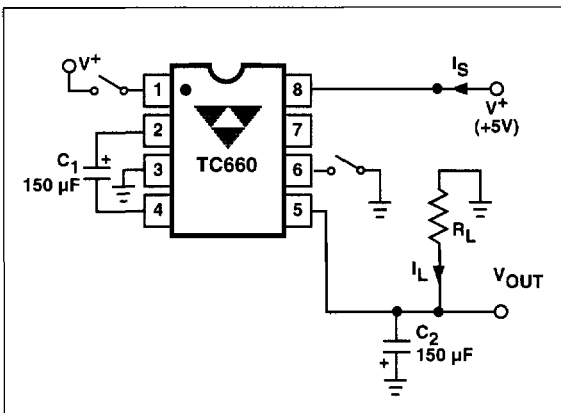
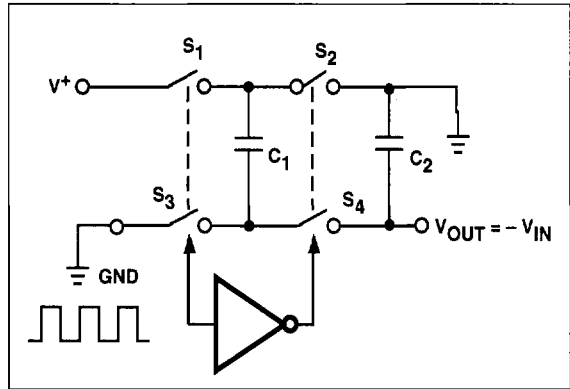

Figure 1. TC660 Test Circuit (Inverter)
Figure 2. Idealized Switched Capacitor
**ELECTRICAL CHARACTERISTICS:** Specifications Measured Over Operating Temperature Range With,  $V^+ = 5V$ ,  $C_{OSC} = \text{Open}$ ,  $C_1, C_2 = 150\mu F$ ,  $FC = \text{Open}$ , Test Circuit (Figure 1), unless otherwise indicated.
All curves are generated using the test circuit of Figure 1 with  $V^+ = 5V$ , LV = GND, FC = open, and  $T_A = +25^\circ C$ , unless otherwise noted.
The TC660 contains all the necessary circuitry to complete a voltage inverter (Figure 1), with the exception of two external capacitors, which may be inexpensive 150 $\mu$ F polarized electrolytic capacitors. Operation is best understood by considering Figure 2, which shows an idealized voltage inverter. Capacitor  $C_1$  is charged to a voltage  $V^+$  for the half cycle when switches  $S_1$  and  $S_3$  are closed. (Note: Switches  $S_2$  and  $S_4$  are open during this half cycle.) During the second half cycle of operation, switches  $S_2$  and  $S_4$  are closed, with  $S_1$  and  $S_3$  open, thereby shifting capacitor  $C_1$  negatively by  $V^+$  volts. Charge is then transferred from  $C_1$  to  $C_2$ , such that the voltage on  $C_2$  is exactly  $V^+$ , assuming ideal switches and no load on  $C_2$ .
The four switches in Figure 2 are MOS power switches;  $S_1$  is a P-channel device, and  $S_2$ ,  $S_3$  and  $S_4$  are N-channel devices. The main difficulty with this approach is that in integrating the switches, the substrates of  $S_3$  and  $S_4$  must always remain reverse-biased with respect to their sources, but not so much as to degrade their ON resistances. In addition, at circuit start-up, and under output short circuit conditions ( $V_{OUT} = V^+$ ), the output voltage must be sensed and the substrate bias adjusted accordingly. Failure to accomplish this would result in high power losses and possible device latch-up. This problem is eliminated in the TC660 by a logic network which senses the output voltage ( $V_{OUT}$ ) together with the level translators, and switches the substrates of  $S_3$  and  $S_4$  to the correct level to maintain necessary reverse bias.
$V_1$  and  $V_2$  are the voltages on  $C_1$  during the pump and transfer cycles. If the impedances of  $C_1$  and  $C_2$  are relatively high at the pump frequency (refer to Figure 2) compared to the value of  $R_L$ , there will be a substantial difference in voltages  $V_1$  and  $V_2$ . Therefore, it is desirable not only to make  $C_2$  as large as possible to eliminate output voltage ripple, but also to employ a correspondingly large value for  $C_1$  in order to achieve maximum efficiency of operation.